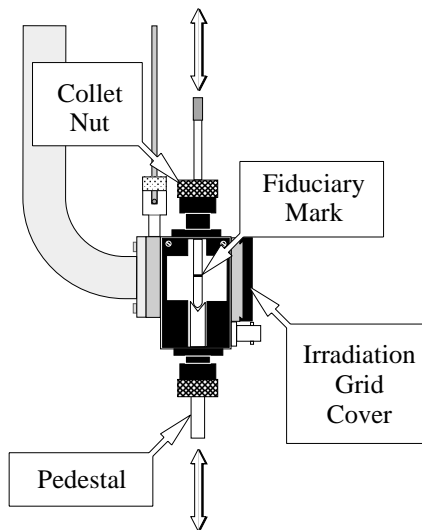

Figure 8-4 Proper positioning of the DPPH sample.
6. **Optimize the DPPH sample position.** Move the sample tube up and down until the maximum signal intensity is attained. (See Figure 8-4.) Avoid moving the sample from side to side. Perhaps the best technique is to loosen the collet nuts for the pedestal and sample tube and move the sample too low. Then use the pedestal to slowly push the sample up. Sometimes the process of moving the sample tube in the cavity can cause the AFC to lose lock. Retune the frequency if this happens. If the signal is clipped, decrease the Receiver Gain. When you have centered the DPPH sample, secure the sample tube by tightening the collet nuts.